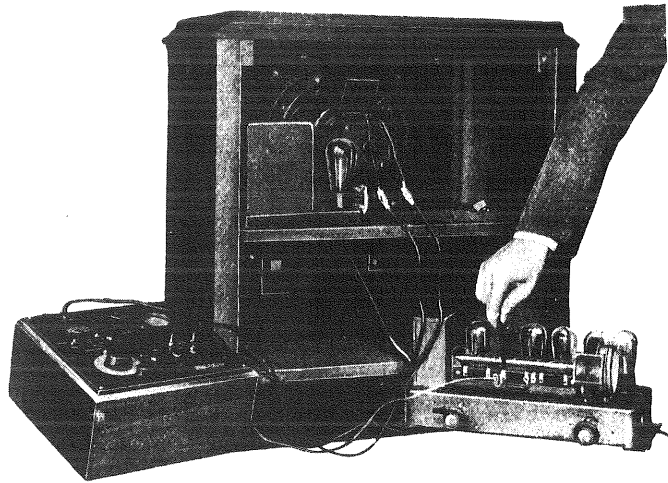

Figure 13—Method of adjusting I.F. tuning condensers and neutralizing condensers
2. A coupling lead for coupling the output of the Driver to the grid or stator of the first detector gang condenser (See Figure 13).
- (a) Remove receiver assembly as described in Part IV, Section 1, but leave all connecting lugs connected to the S.P.U. terminal strip (the terminal strip cover and insulator should be removed). Place the receiver in the position shown in Figure 13.
- (b) Disconnect red leads from output transformer to cone coil binding posts (See Figure 22). To these should be clipped the meter terminal leads as shown in Figure 13. If it is desired to tune to resonance by ear as well as by sight of the meter (the latter, of course, should be used at all times for accurate settings), do not disconnect the red leads, but clip the meter leads to the cone coil binding posts on the loudspeaker frame. The switch under the meter of the "Driver" should be thrown to the dynamic ("Dyn") position. If a General Radio 180 K.C. "Test Driver," altered for 175 K.C., is used, the brown lead from the receiver should be released from Terminal No. 6 and the 0-2 D.C. milliammeter of the "Test Driver" inserted in series with correct polarities. If a separate meter is used a 0-5 D.C. milliammeter should be used, or a 0-2 D.C. milliammeter with 15,000 ohms in series.
- (c) Now clip the coupling lead from the "Driver" on the center stator of the R.F. and oscillator gang condenser assembly. This places the output of the "Driver" into the I.F. stages through the first detector (See Figure 13). This connection is recommended for neutralizing with phones, as will be explained later. For the tuning procedure if too much pick-up is obtained the lead with the coupling coil should be placed under the center coil of the R.F. and oscillator assembly.